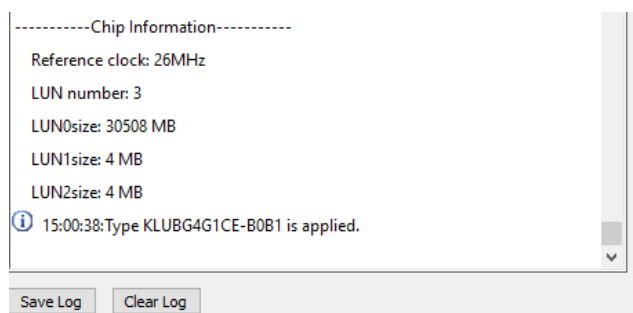

Fig. 5-43
**Step 1.** Open the software and set up the configuration descriptor in the **Config** window. (Fig. 5-43)